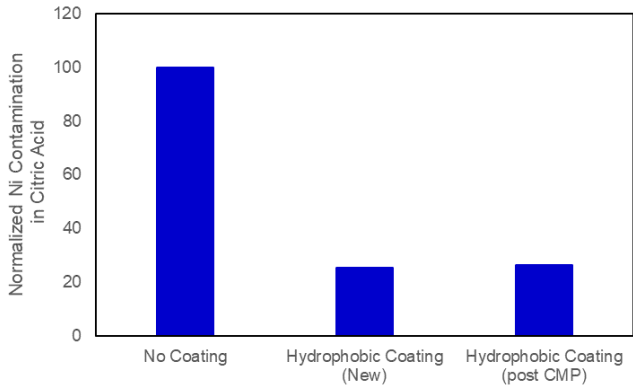

Fig. 2 Metal leaching prevention performance result
(1) Uncoated 3M diamond pad conditioner
(2) 3M diamond pad conditioner with a hydrophobic coating
To confirm metal leaching prevention performance, we prepared 3 pad conditioner samples, (1) Uncoated pad conditioner, (2) pad conditioner with a hydrophobic coating, (3) pad conditioner with a hydrophobic coating, after a 250 wafer Oxide CMP test. To analyze metal leaching, the samples were fully immersed in 2000ppm of Citric Acid for 24 hours at room temperature. The amount of Ni that dissolved into the Citric Acid was analyzed by ICP. Fig. 2 shows the metal leaching test result, demonstrating that a CMP pad conditioner with 3M’s hydrophobic coating can substantially reduce metal leaching for both new and post CMP. The result indicated the metal leaching prevention performance of hydrophobic coating layer is maintained even during the CMP process.